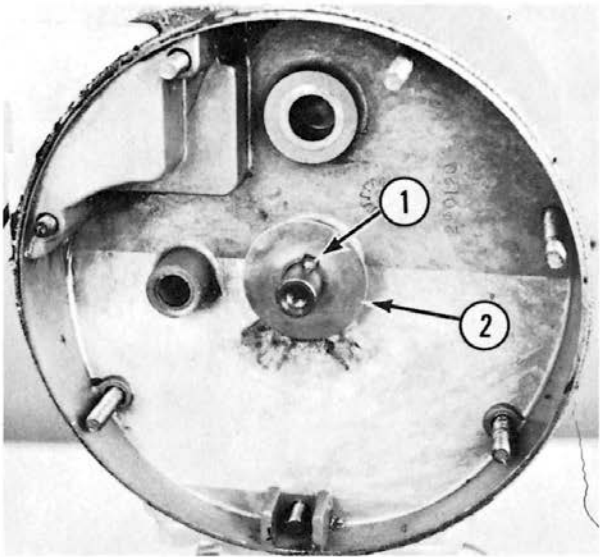

Fig. 4-2
- D. Remove the pinion drive pin (1, Fig. 4-2) and the baffle plate (2, Fig. 4-2).